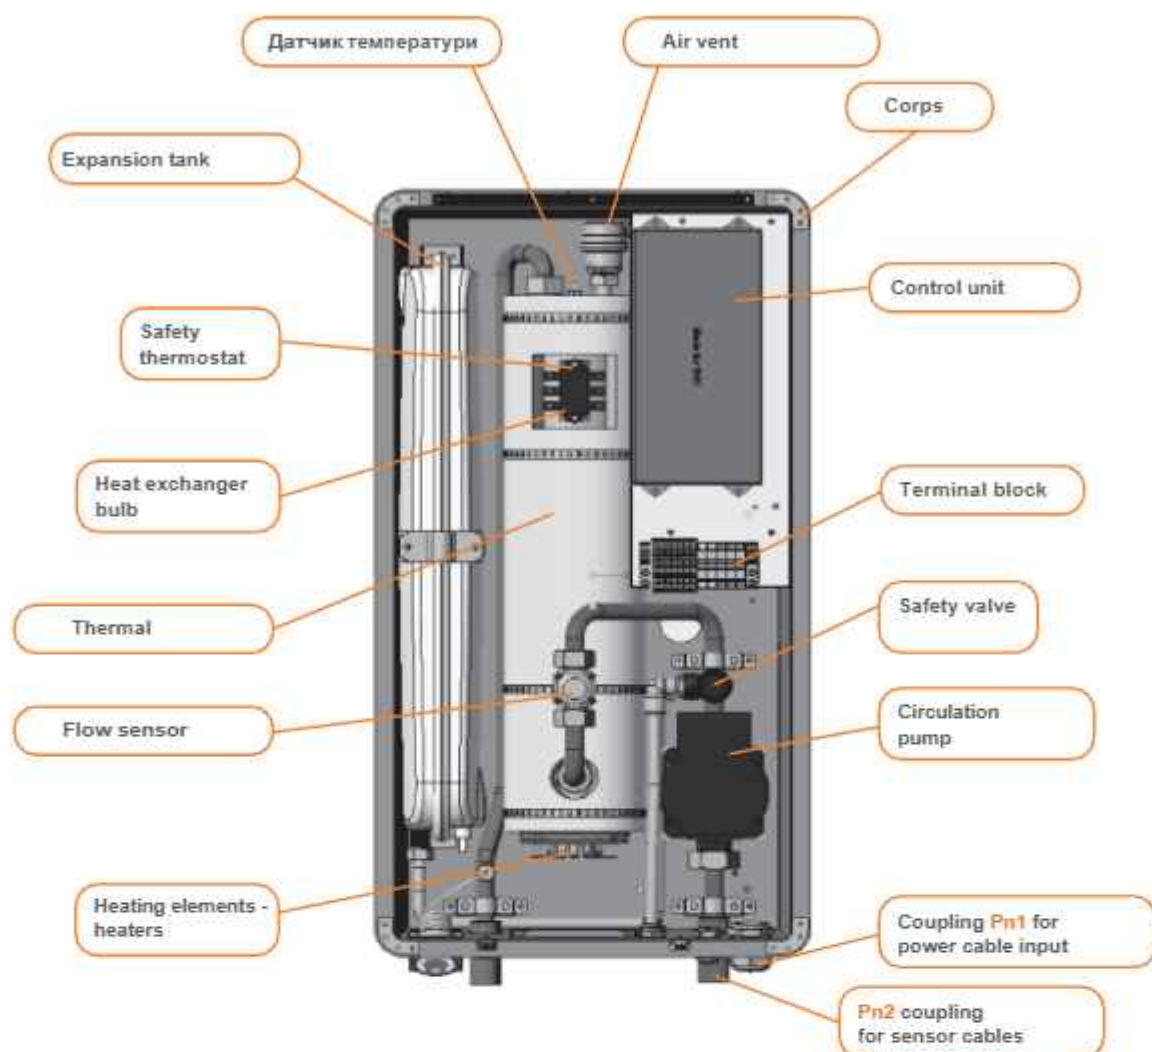

Figure 1 - Internal elements of the electric boiler.
4.3 The boiler device is shown in Figures 1, 2.